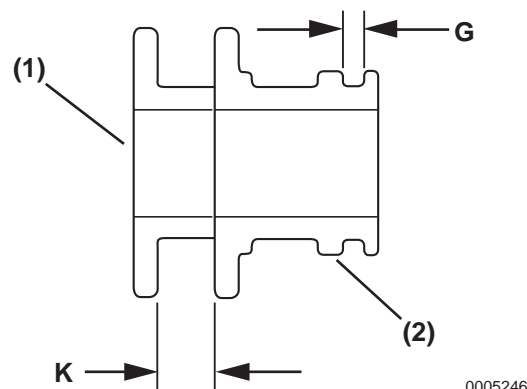

Figure 9-6
Check each part for damage, wear, surface defects and discoloration. Replace the component if needed, even if dimensions (**Figure 9-6, (G)**) and (**Figure 9-6, (K)**) are within the wear limit.
Measure the seal ring groove width (**Figure 9-6, (K)**) of the thrust bushing. Replace the thrust bushing if the measured value exceeds the wear limit.
Measure the seal ring groove width (**Figure 9-6, (G)**). Replace with a new one if the measured value exceeds the wear limit.